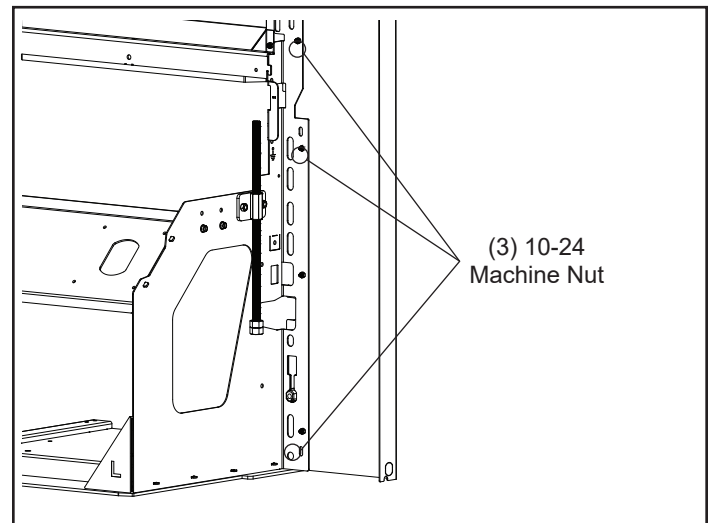

Figure 5.5
Using (6) 10-24 nuts and studs, install the left and right surround panels to the mounting frame. Leave these bolts loose until the entire surround assembly has been adjusted for proper clearance. Figure 5.5